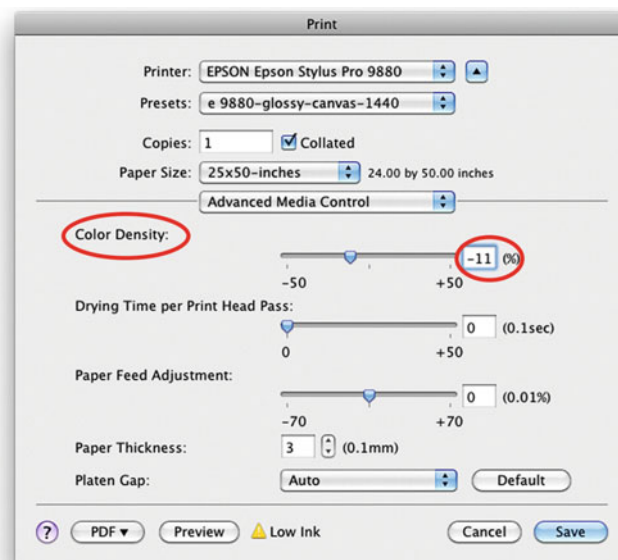

FIGURE 13.18 Advanced Media Settings in Epson 9880 printer driver when printing with Glossy Canvas media, showing the necessary reduction in color density.
13.16, which can then be pulled over traditional stretcher bars for display. Of course, it is also possible to print on the uncoated and untreated side of the canvas, as Stephanie Sauer did in her print in Figure 13.17. Besides original work, printing onto canvas is often done for fine-art reproduction. When printing onto canvas, it is important to refer to the media settings recommended by the canvas manufacturer. Figure 13.18 shows the **Advanced Media** settings Epson recommends when using its Glossy Canvas media in the Epson 9880. Notice that the **Color Density** has been brought down to -11% . Too high an ink laid down could lead to pooling of ink and a loss of detail. Pigment-based inkjet output onto canvas, because of the rough surface, can be especially delicate, so finishing the prints with a protective spray will be important, as we will discuss in Chapter 21.